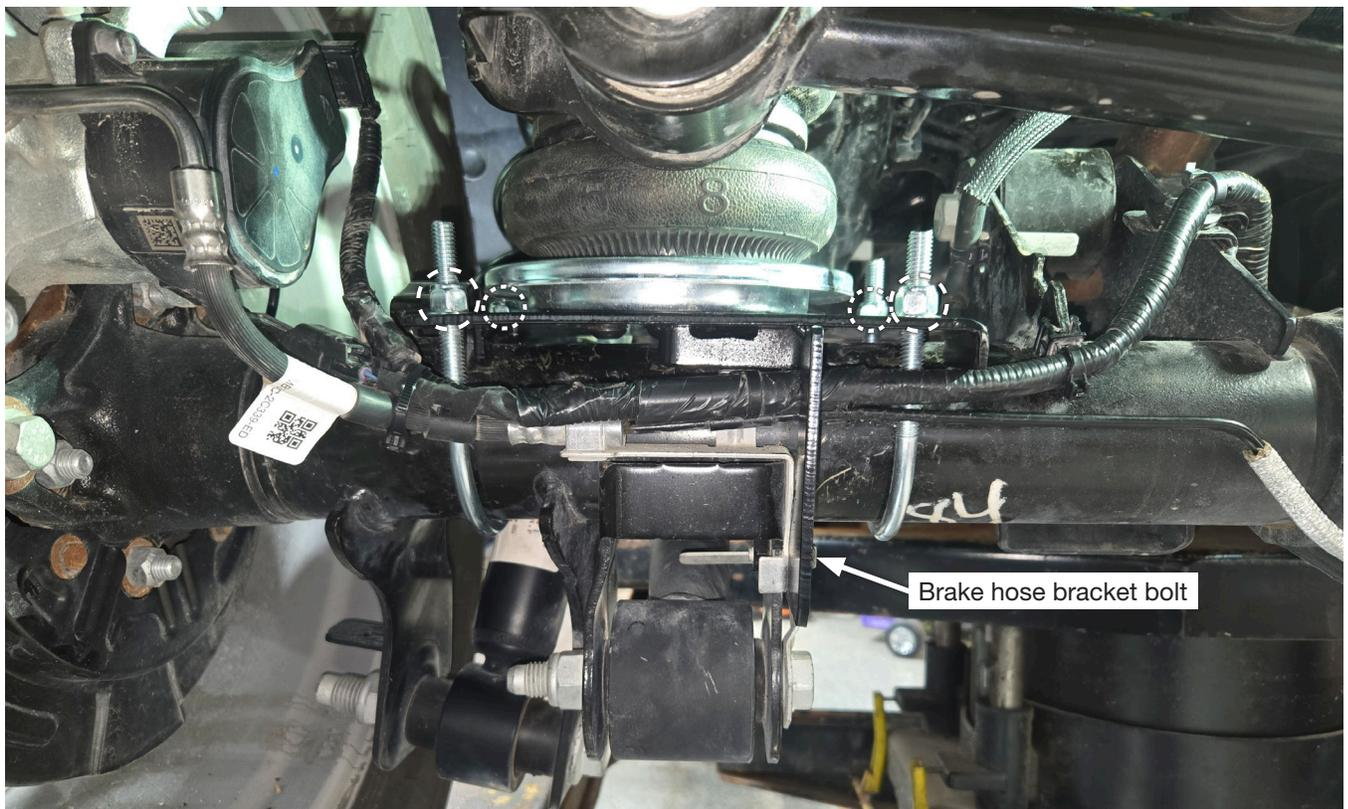

Fig. 20
- After both of the upper brackets hardware has been installed and torqued, the driver's (left) side lower bracket U-bolts (circled) need to be torqued to 16 lb.-ft. (20Nm). Torque the brake hose bracket bolt to 159 lb.-in (18Nm) (Fig. 20).